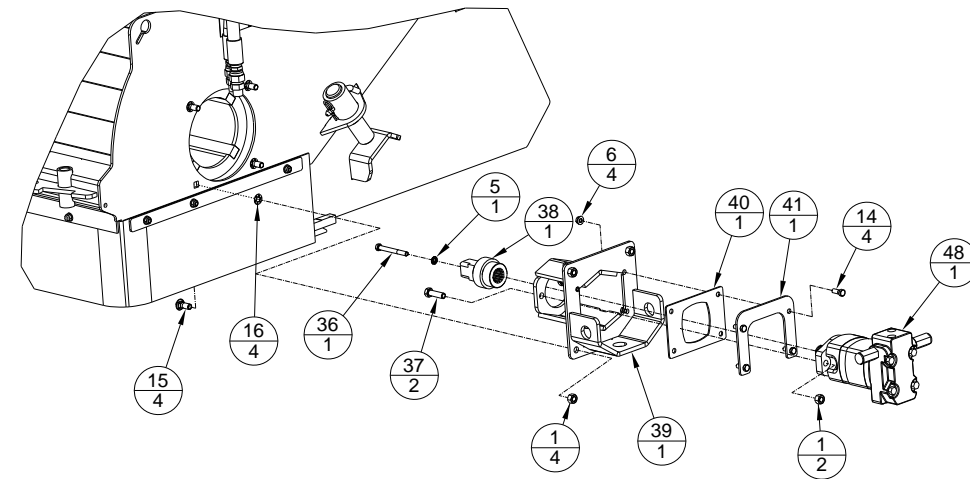

Figure 5.
- Remove the 4 nuts (Item #1, see Figure 5) holding the Hydraulic Motor Assembly and remove the Hydraulic Motor Assembly.
- Before reinstalling motor, remove the 3/8" bolt (Item #36, see Figure 5) holding the Drive Adapter (Item #38) on the Hydraulic Motor (Item #48) and apply a thin layer of grease to the splines of the motor. Reinstall Drive Adapter to the Hydraulic Motor.